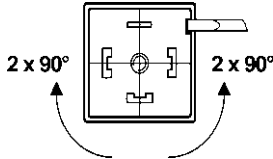

Fig. 6: Turning the manifold
- Carefully underlay the manifold with the screwdriver blade and lever it out (Fig. 6).